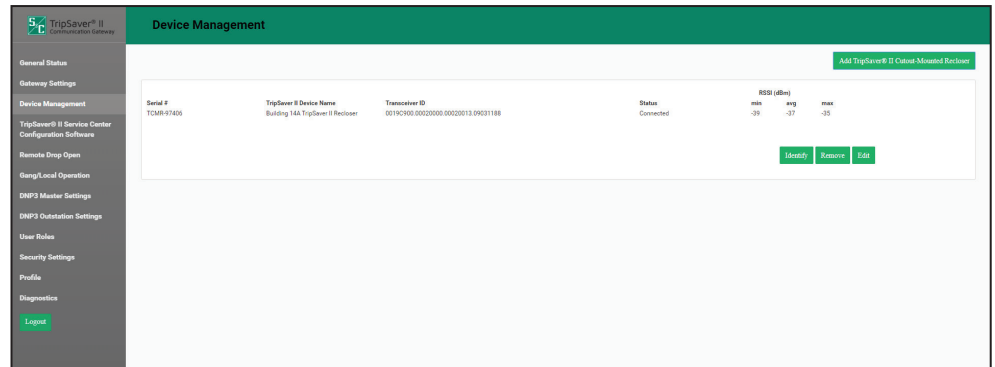

Figure 8. The *Device Management* screen after pairing a TripSaver II recloser.
- STEP 6.** Click on the **OK** button. The communications gateway will connect to the TripSaver II recloser and it will appear as “connected” in the *Device Management* screen. See Figure 8.